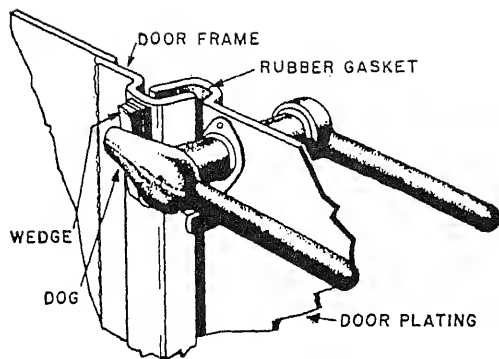

Figure 12-4.—Dogs and gasket for watertight door.
Access through bulkheads is provided by *doors* and through decks by *hatches*. *Watertight* (WT) *doors*, as the term implies, form a watertight seal when properly closed. All doors leading to weather decks are of the watertight variety, as are those in structural (watertight) bulkheads. (See fig. 12-4.) The doors are held closed by fittings called *dogs*, which bear up tight on wedges.